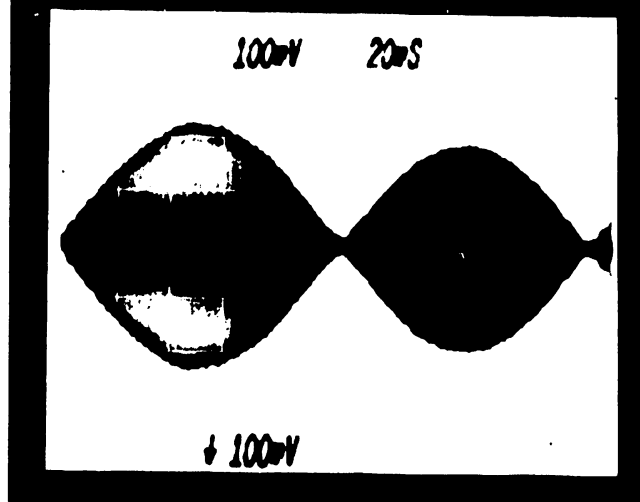

Figure 4-8: Radial Track Alignment Patterns
- E. With power on loosen the stepper motor mounting screws on bottom of drive and rotate the motor so that the "cat's eye" pattern appears on the scope and adjacent lobes are within 70% amplitude. However, ideal alignment is indicated when adjacent lobes have equal amplitude. (see Figure 4-8). Tighten mounting screws. Command a return to track 00 and then step back to track 16 to verify proper alignment. Command a seek to track 32 and then step back to track 16 to verify proper alignment.